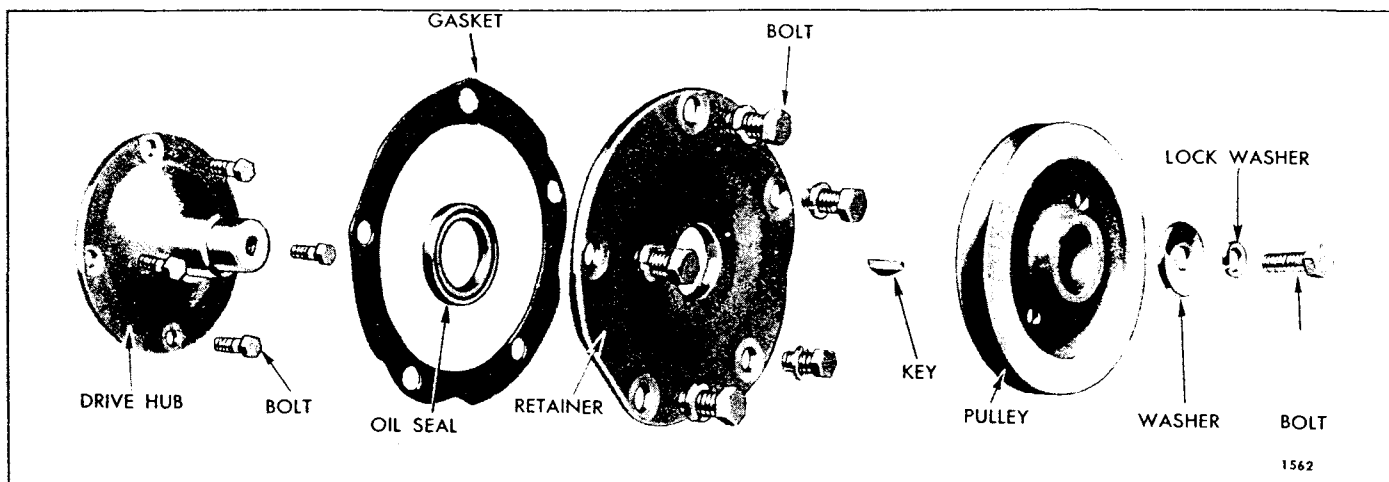
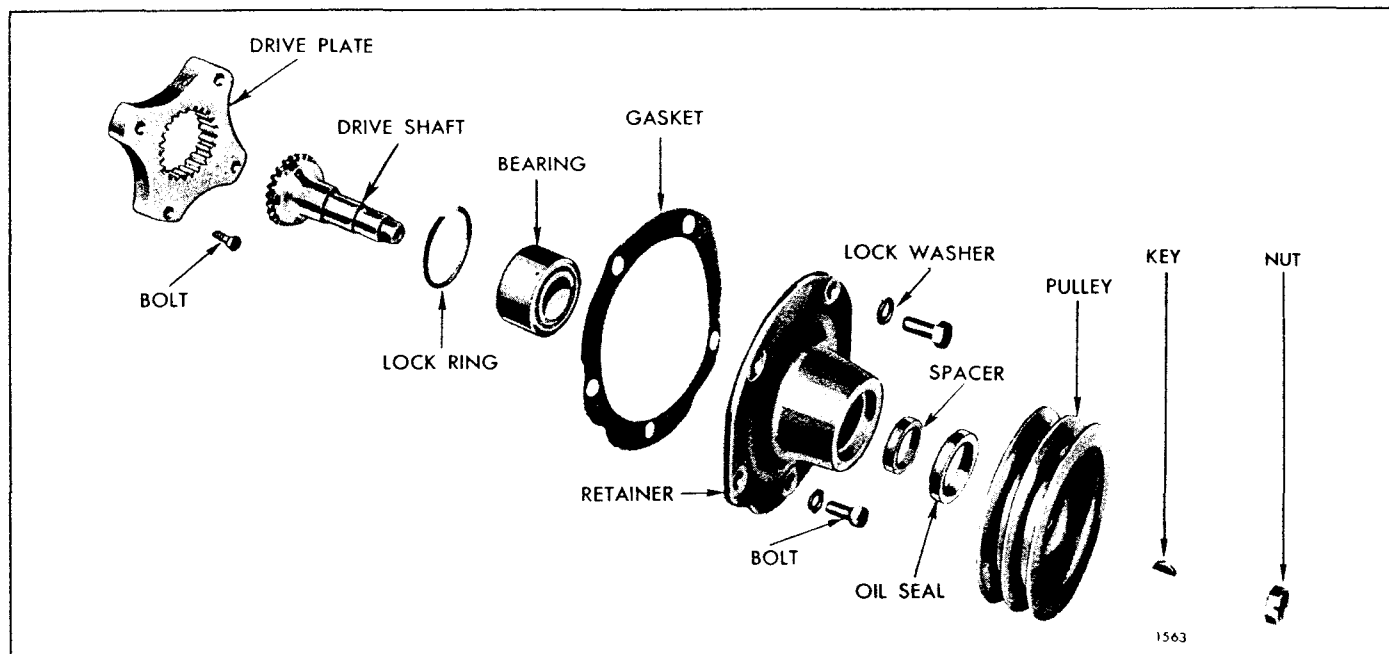
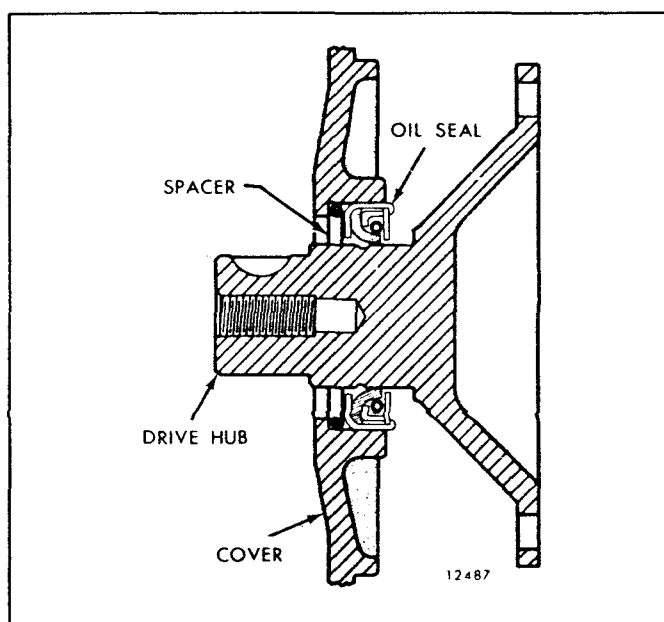

Fig. 4 – Components of Accessory Drive for Belt-Driven Accessory (Drive Hub Type)
Fig. 5 – Components of Accessory Drive for Belt-Driven Accessory (Drive Plate Type)
Fig. 7 – Location of Oil Seal Spacer
In the first arrangement, illustrated in Fig. 4, the drive hub is bolted to the camshaft or balance shaft gear. The oil seal retainer is bolted to the flywheel housing and the pulley is keyed to the drive hub shaft which extends through the oil seal retainer.
In the second arrangement, shown in Fig. 5, the spacer and accessory drive plate are bolted to the camshaft or balance shaft gear. The accessory drive shaft is splined to the drive plate at one end and supported by a bearing in the accessory drive retainer at the other end. The accessory drive retainer, which also incorporates an oil seal, is bolted to the flywheel housing. The pulley is keyed to the drive shaft which extends through the drive retainer assembly.
3. Remove the bolt and washer (Fig. 4), or nut (Fig. 5), retaining the pulley on the drive shaft.
6. Remove the accessory drive shaft, drive plate and spacer (Fig. 5), or drive hub (Fig. 4), in a manner
7. Remove the snap ring and ball bearing from the accessory drive shaft retainer assembly shown in Fig. 5.
Inspect the ball bearing used to support the accessory drive shaft shown in Fig. 5. Wash the bearing in clean fuel oil and dry it with compressed air.
Shielded bearings must not be washed; dirt may be washed in and the cleaning fluid could not be entirely removed from the bearing. Wipe the outside of the bearing clean, then hold the inner race and revolve the outer race slowly by hand. If the bearing is worn or does not roll freely, replace the bearing. Inspect the accessory drive hub, shown in Fig. 4, for grooving at the area of contact with the lip of the oil seal. If the hub is grooved to a point where the effectiveness of the oil seal is lost, a ring type oil seal spacer is available which serves to reposition the seal, thus providing a new sealing surface for the lip of the seal (Fig. 7).
4. If the accessory drive shown in Figs. 5 or 6 is used, assemble as follows: